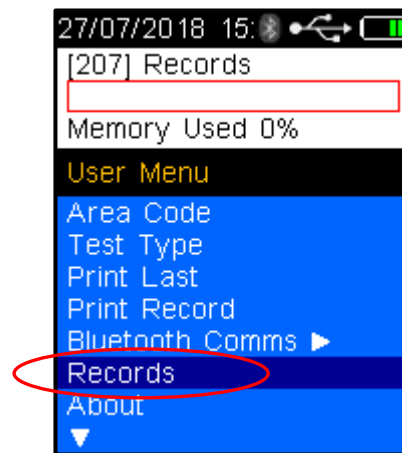

Figure 103 – Records
- Using the down button, scroll down to *Records* (Refer to Figure 103 – Records Figure 103).